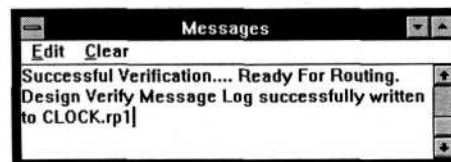

Figure 3-9. Successful Design Verification Message
23. From the Design Manager menu bar, select **Design** => **Verify**. This starts the global verify process. If **Verify** finds any problems, it lists them in the Messages window at the bottom of the screen. The verifier also creates a netlist file that the Router uses to route the design. Once the design passes **Verify**, it is ready to be routed (Figure 3-9).